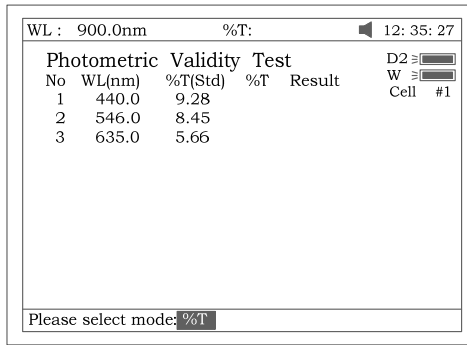

Fig 92
3. Press [F2] to select test mode (Abs or %T, Fig 92).